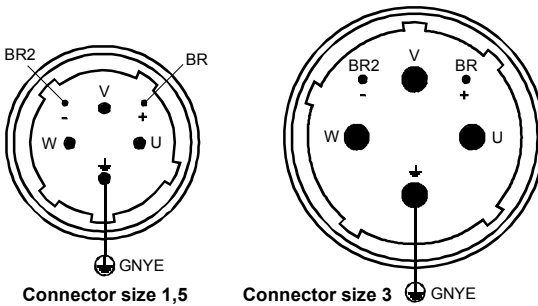
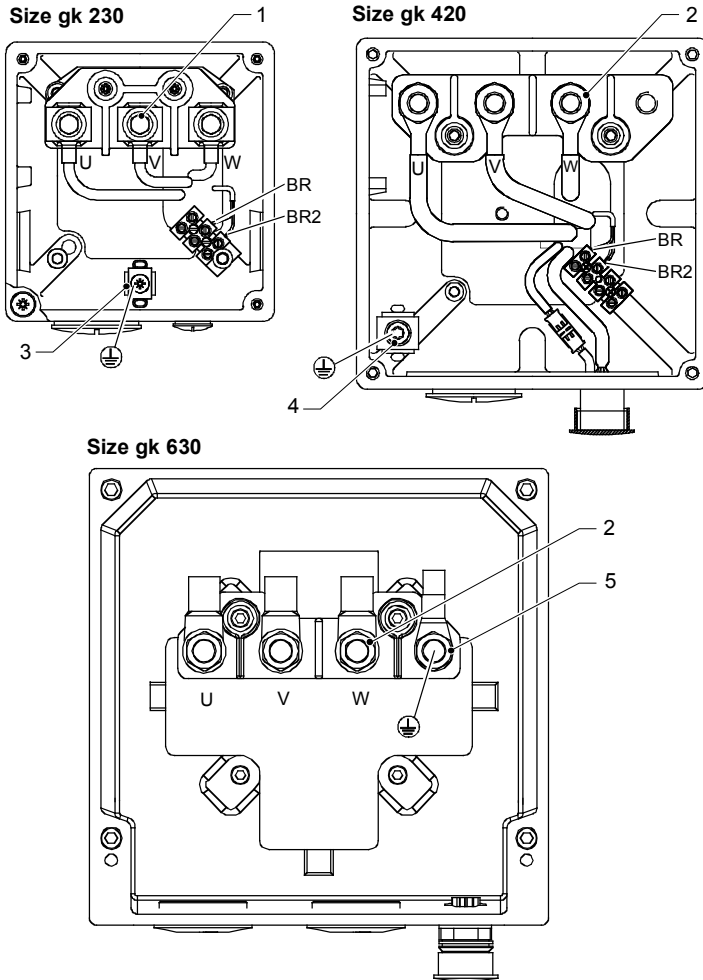

Fig. 7 Power plug (view of plug pins)
Fig. 8 Terminal box
- Make the plug assignment as shown in Fig. 7, connect the PE conductor.
- Connect the optional brake via the power plug as shown in Fig. 7.
- Make the terminal assignment in the terminal box as shown in Fig. 8.
- Connect the optional brake as shown in Fig. 8
- Connect the brake via a power connector (Fig. 7) or a terminal box (Fig. 8).